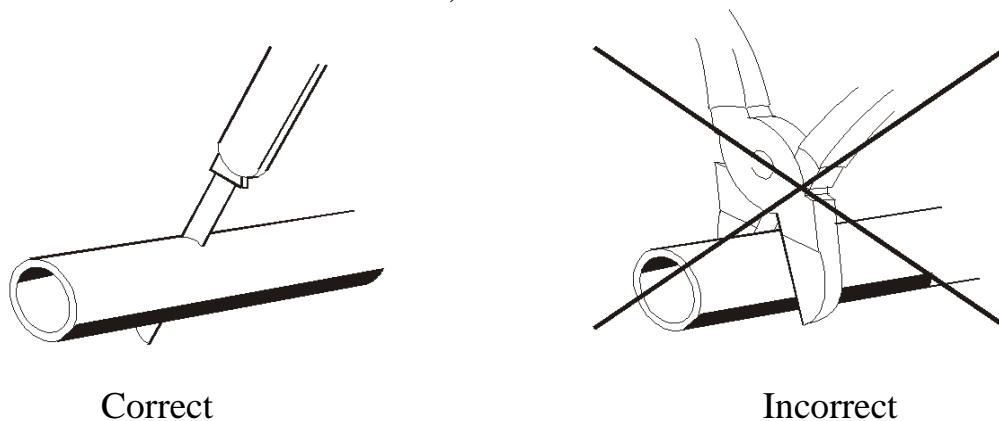

Figure 11 – Cutting the fuel pipe before installation
10.6.2 While assembling the fuel pipe shall be cut only with a sharp knife, as shown in Figure 11. Cutoffs shall be free of restriction, dents and burrs.